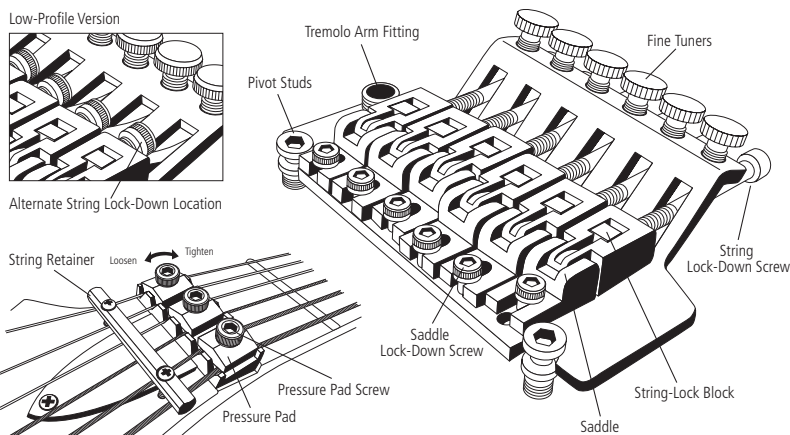

Figure 16: Floyd Rose Double-Locking Tremolo
The Floyd Rose double-locking tremolo was popularized in the early 80's and has remained a popular system ever since. This system locks the strings both at the string saddle and the nut (Figure 16). By locking the string at both locations, there is minimal if any string slippage and almost no friction except at the point of the knife-edge/pivot studs. This results in a guitar that stays in tune extremely well, and allows the pitch of the strings to be manipulated via the tremolo arm or "whammy bar".
### Refer to Figure 16:
7. After replacing the desired string(s), tune all strings to pitch, stretch strings, and retune. You will have to re-tune your guitar a few times until the tremolo has settled and the guitar remains in tune. Once your guitar is holding tune, tighten all three pressure pad screws. **Note:** Make sure the orientation of the pressure pads match the drawing in Figure 16. If the pressure pads are not oriented properly in the locking nut, the strings will not lock down properly and you may experience tuning problems.